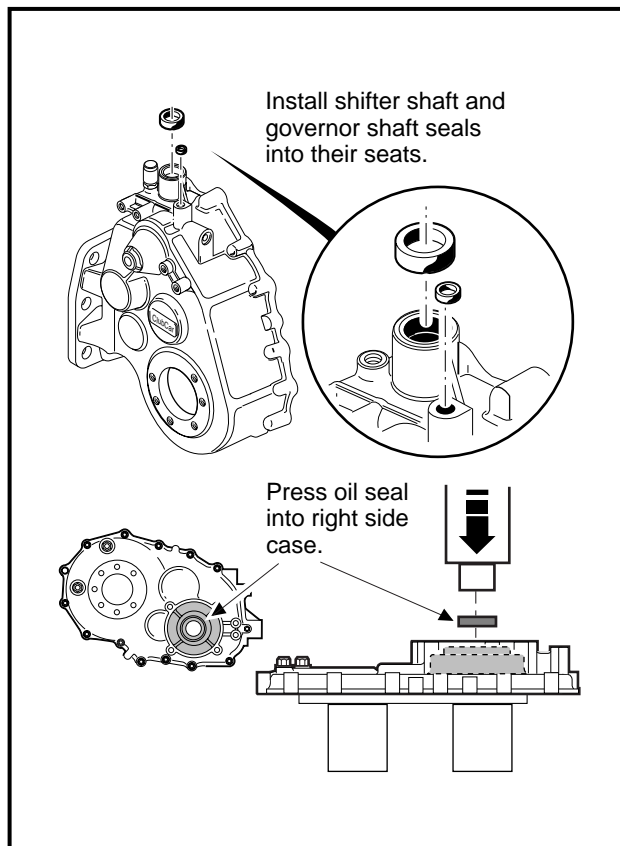

Figure 16-66 Install Seals
2. Put a light coating of clean transmission oil on the outside edge of the seal to make installation easier. Press two new oil seals (13 and 22) (**Figure 16-34, Page 16-15**) into the left (driver) side case. Use an oil seal installation tool (CCI 1014160) to install a new oil seal (55) (**Figure 16-41, Page 16-18**) into the right (passenger side) case. **See also Figure 16-66, Page 16-30.**